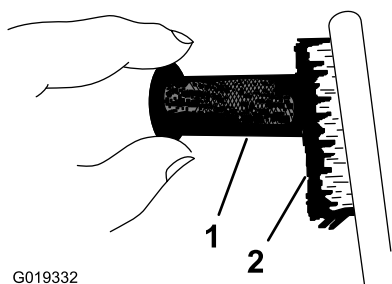

Figure 48
6. Use a brush to carefully remove carbon deposits from the spark-arrester screen (Figure 48).